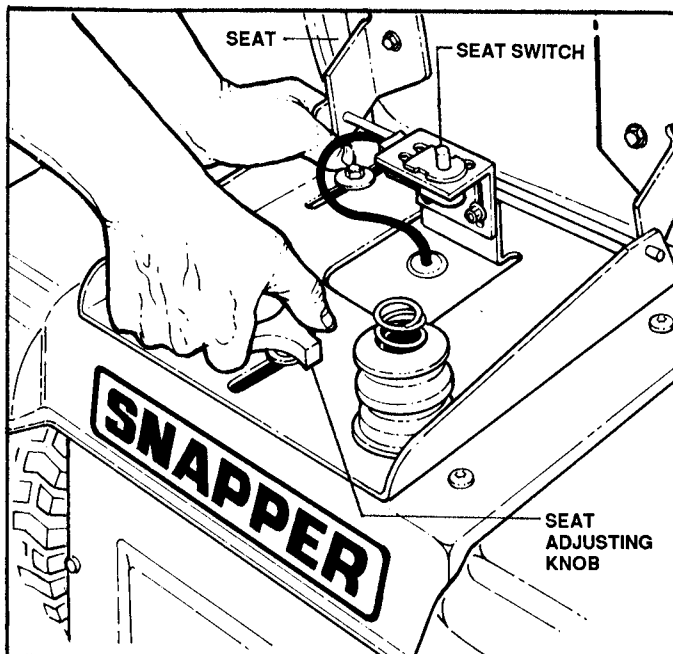

FIGURE 8
- RE-ADJUST SEAT as needed to most comfortable position. (Refer to Pages 5 & 6, Figure 8)
support. Sit in operators seat and, while depressing the CLUTCH/BRAKE PEDAL, slide the seat forward or rearward to the most comfortable position, then lock in position by tightening ADJUSTING KNOB. See Figure 8.